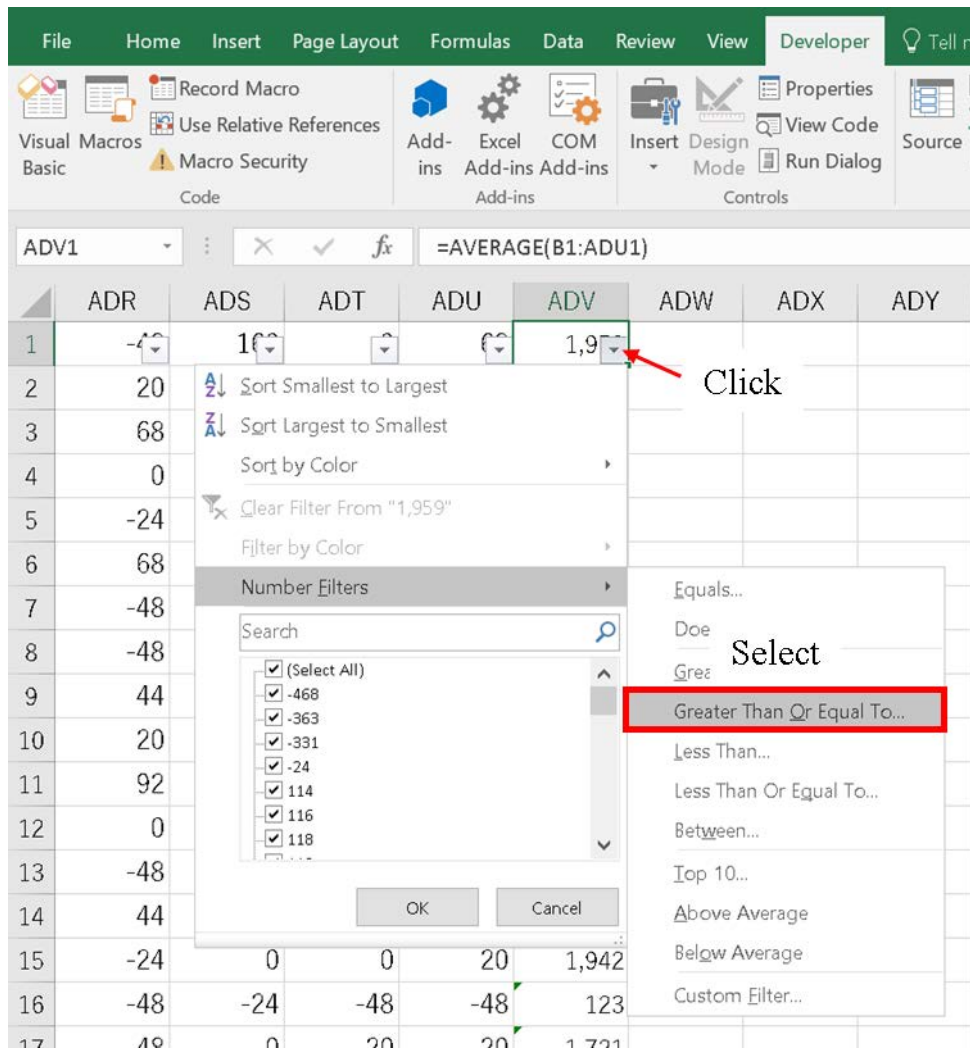
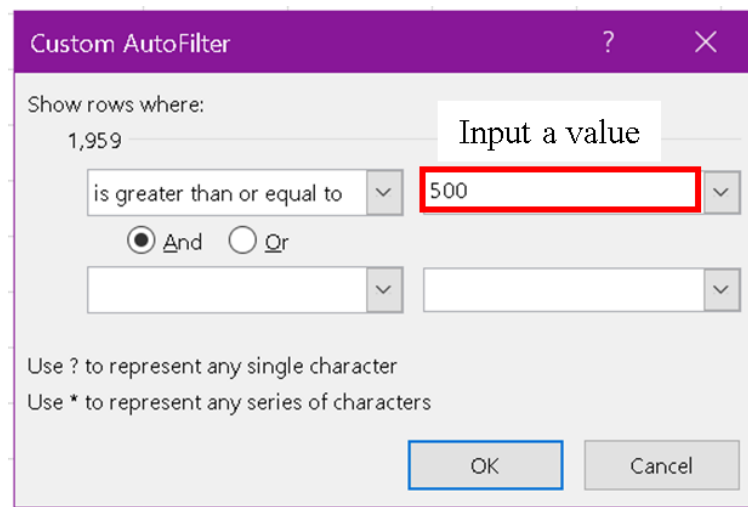

Figure 21. Selecting the way of filtering data.
Figure 22. Custom AutoFilter box.
- 5) Click the arrow in column ADV1, and then click “Number Filters”. Select “Greater Than Or Equal To...” (Figure 21), then the Custom Auto Filter box is opened. In the Custom AutoFilter box, type the criteria for filtering your data. For example, type 500 in the upper-right box to show the data higher than 500. Click “OK” to apply the filter (Figure 22).